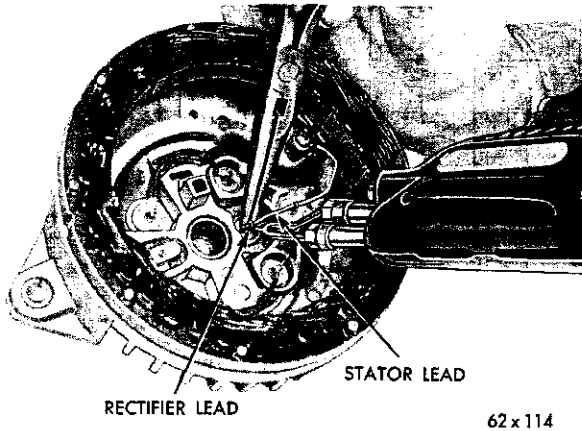

Fig. 76—Soldering the Rectifier and Stator Leads
(3) If the stator leads were disconnected at disassembly; clean the leads and mate the stator lead with the rectifier wire loop and bend the loop snugly around the stator lead to provide a good electrical and mechanical connection. Solder the wires with resin core solder. Hold the rectifier lead wire with pliers just below the joint while soldering (Fig. 76.) The pliers will absorb the heat from soldering and protect the rectifier.
(4) After soldering the stator leads must be pushed down into the slots that are cast into the end shield and cemented with MoPar Cement, Part Number 2299314 to protect the leads against possible interference with the rotor fans. Test each replacement rectifier to make certain the rectifier was not damaged by the soldering or pressing operations.
(5) Support the end shield on Tool C-3925 so that